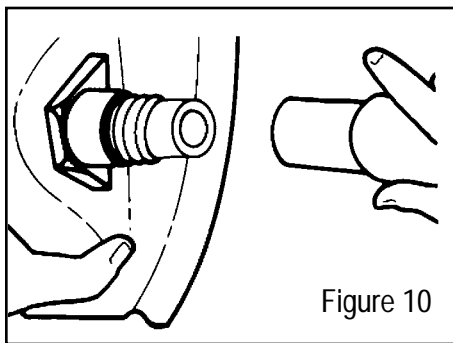

Figure 10
1. Connect breathing tube assembly to helmet by screwing plastic hose connector to fitting located on the side of the helmet. Turn clockwise to tighten (Figure 10).